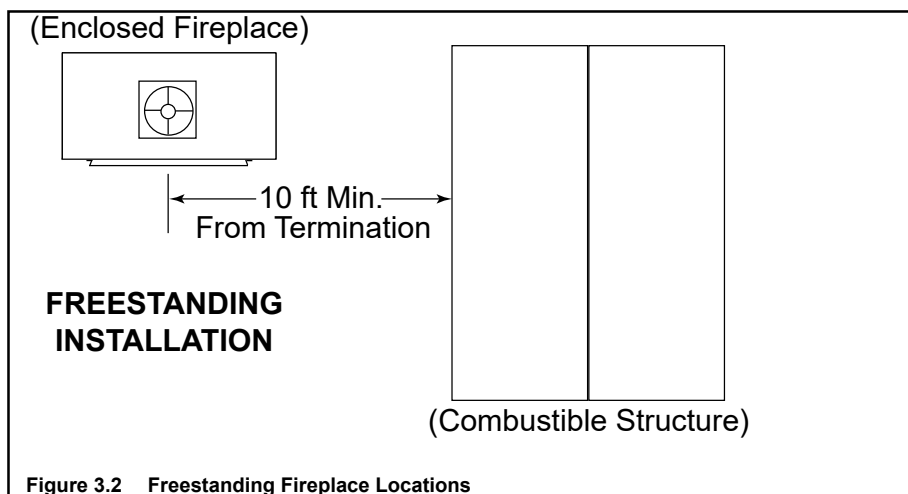

Figure 3.2 Freestanding Fireplace Locations
• Freestanding Installations (see Figure 3.2)
- Minimum overall straight height is 10 ft. If the fireplace is freestanding and a minimum of 10 ft from a combustible structure. See Figure 3.2.